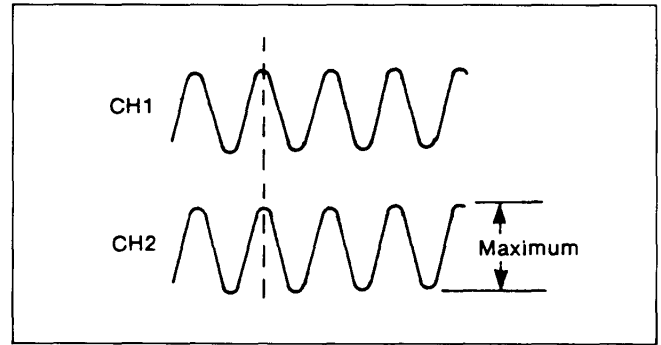
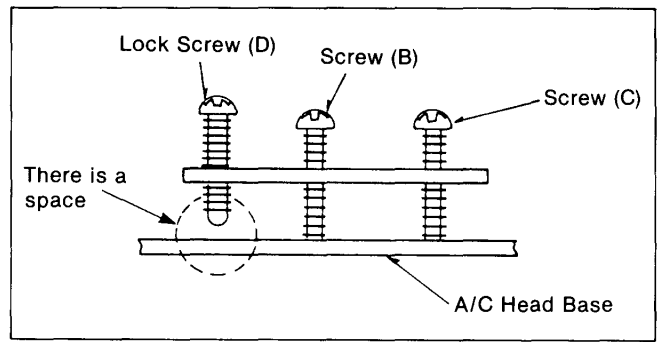

Figure M16
Figure M17
6. Adjust the screw (C) and (B) so that CH1 and CH2 output levels become maximum, these phases of both channels much at the same time (Figure M16). During this adjustment the Lock screw (D) does not touch the A/C Head Base as shown in Figure M17.